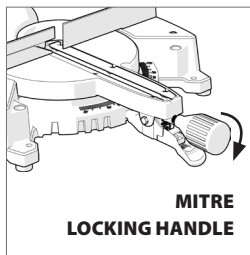

Fig. 3b
- Turn the Mitre Locking Handle clockwise to engage and draw the Handle into the locking mechanism. (**Fig. 3b**)